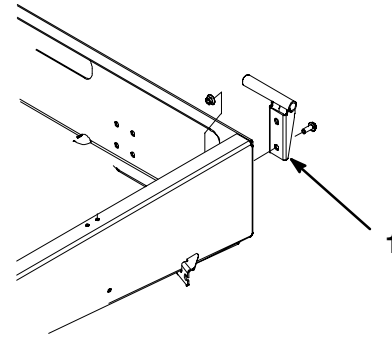

Figure 7
2. Mount the left hand pivot bracket to the left rear corner of the frame with (2) 3/8 x 1" capscrews. Position the bracket as shown in Figure 7.